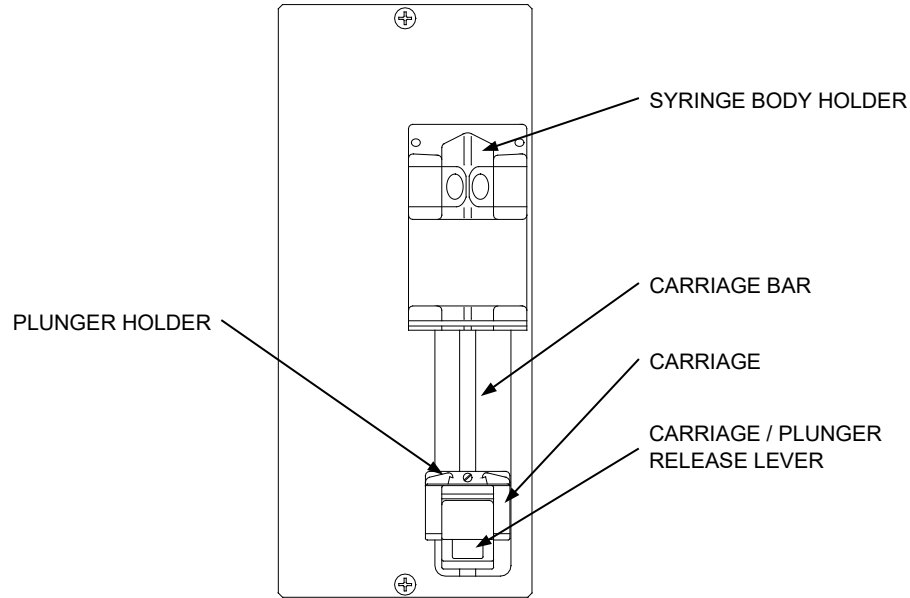

Figure 8. Heparin Pump Module.
6. When the carriage has stopped, press the [Escape] key and clean the carriage bar (See Figure 8).